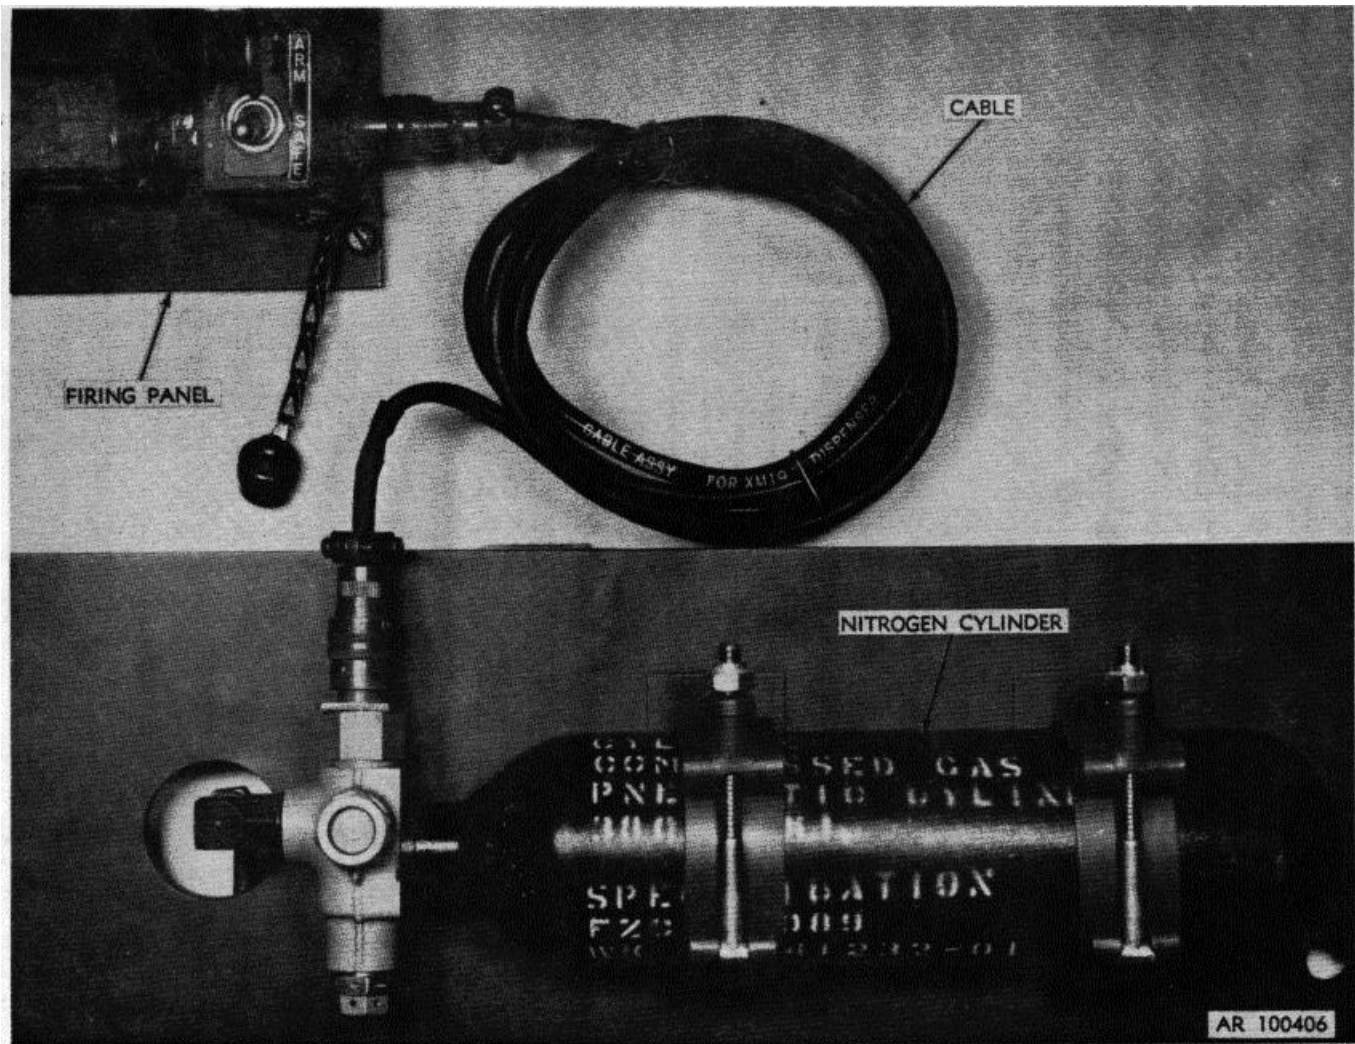

Figure 2-7. Cable connected to firing panel and nitrogen cylinder
(4) Mount firing panel on instrument panel in most convenient position for pilot use by locking snap-screws of firing panel.
(5) Attach cable to firing panel and electrical connector on nitrogen cylinder (fig. 2-7).